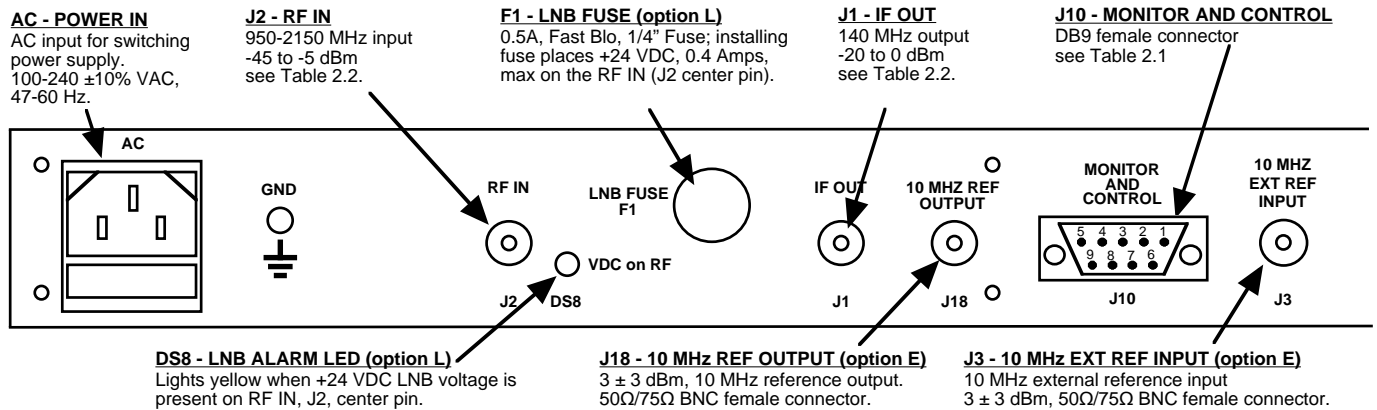

FIGURE 2.2 2016-04A Rear Panel I/Os
Figure 2.2 shows the input and output connectors on the rear panel.
1. Connect a -45 dBm to -5 dBm signal to RF IN, J2 (Figure 2.2).